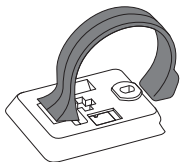

Figure 1. Handlebar clamp in back of computer base.
- ✦ Insert the correct handlebar clamp (A) into the computer base (C) (Figure 1).